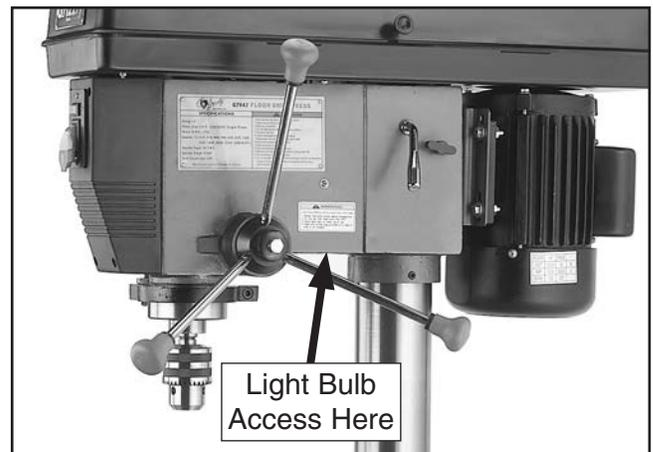

Figure 26. Light bulb access location.
26. Install a 60W or smaller light bulb in location shown in **Figure 26** (120V operation only).